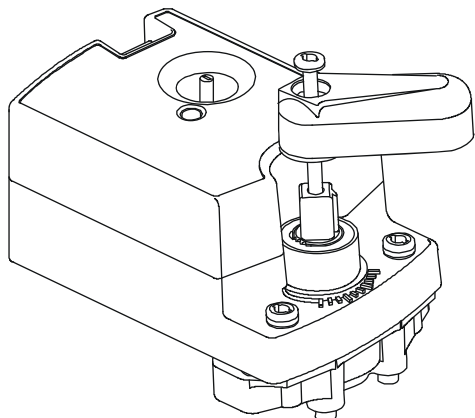

Figure 5: Installing the Handle
3. Place the handle to the top of the drive shaft (Figure 5). The handle is keyed on and can only be mounted in one orientation.
- verify that the valve fully opens and closes, using the gear release button on the actuator and the manual override handle, shown in Figure 5.